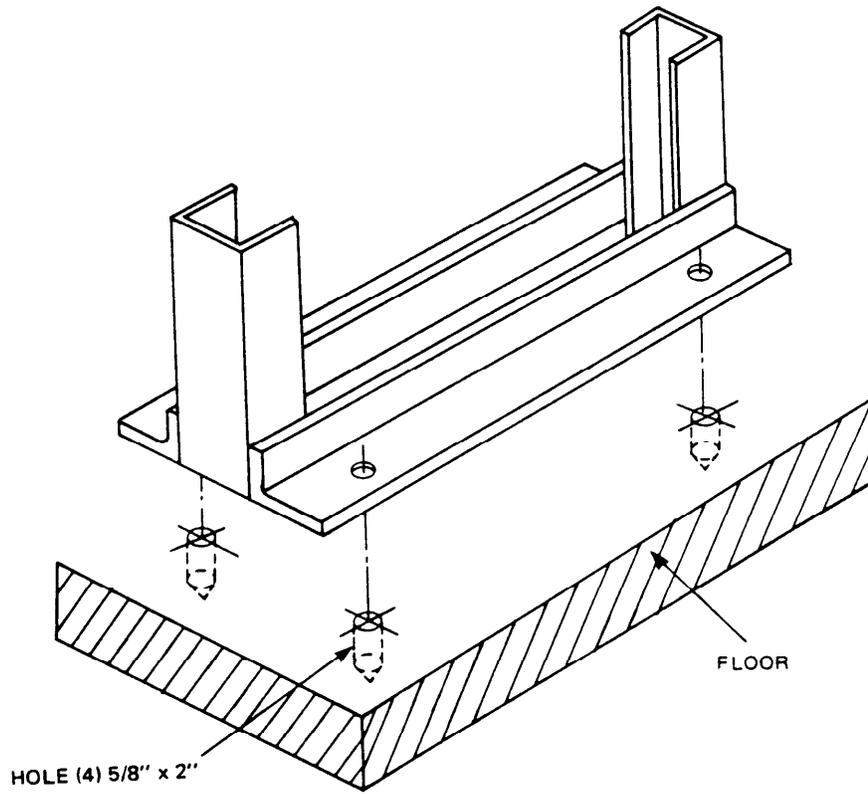

Figure 3-1 Standard EIA 19-Inch Relay Rack Installation
3.02 Figure 3-1 shows a typical method for installing a standard EIA 19-inch rack. Other methods appropriate for a particular location may be used.